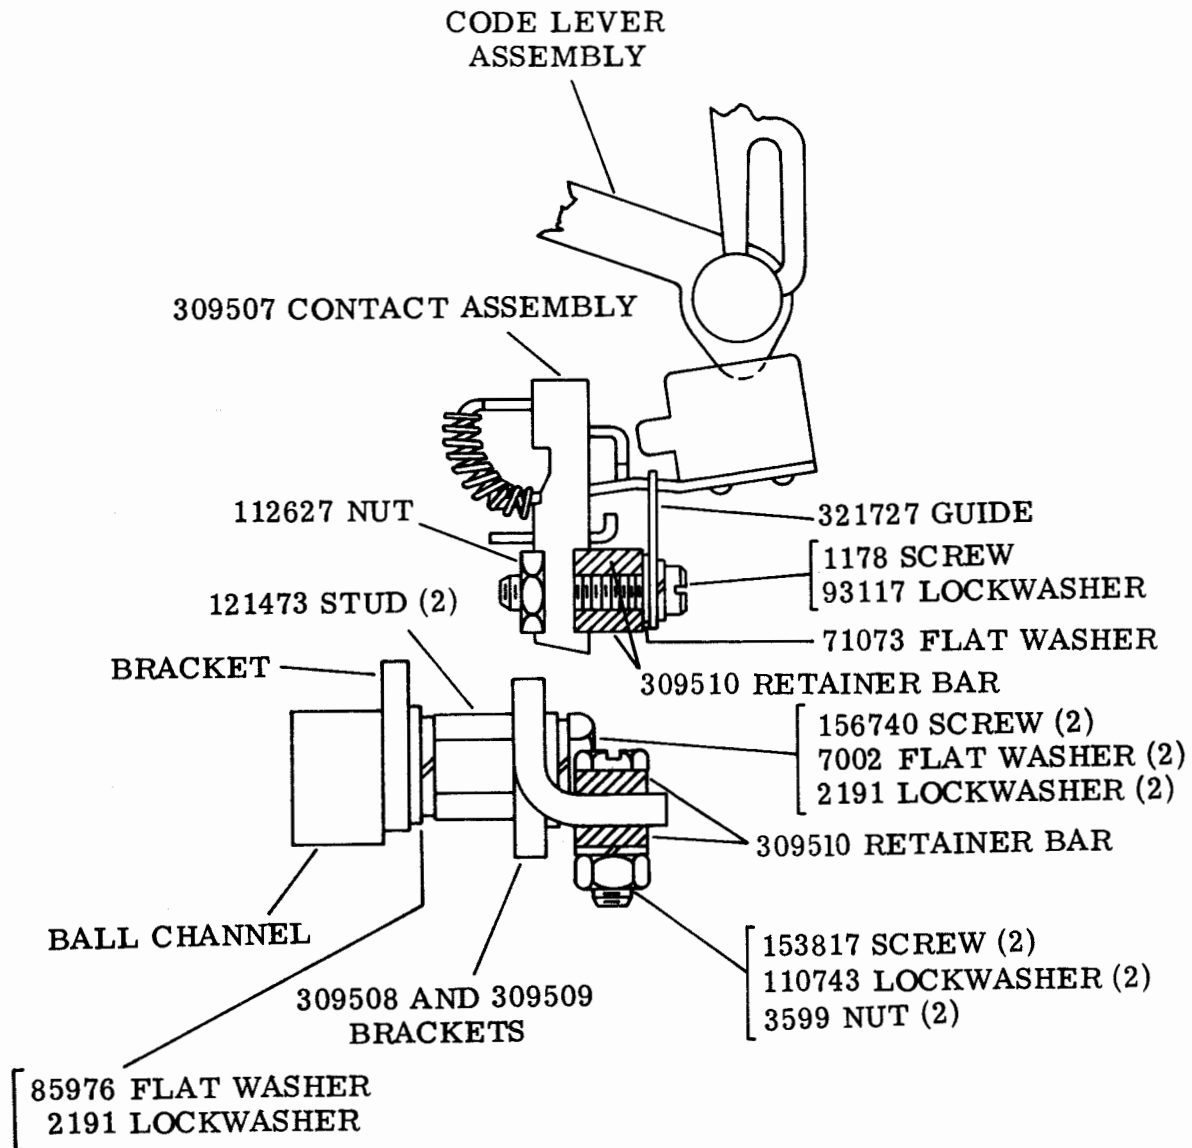

FIGURE 1
2. INSTALLATION (Figures 1, 2, and Bulletin 1169B)
3. ADJUSTMENTS (Figures 1 and 2)